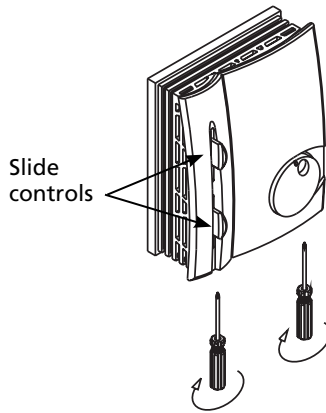

Figure 3
2. Use a screwdriver to loosen the screws at the bottom of the thermostat as shown in Figure 3.